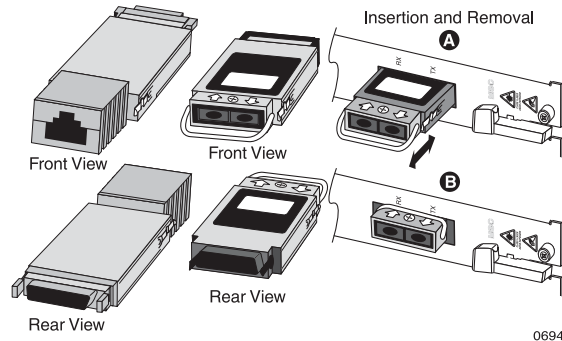
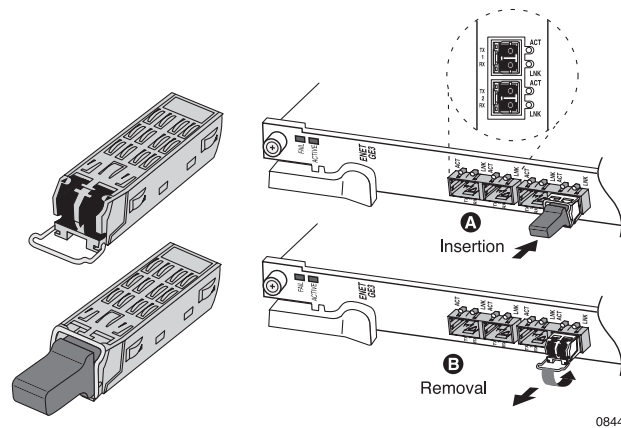
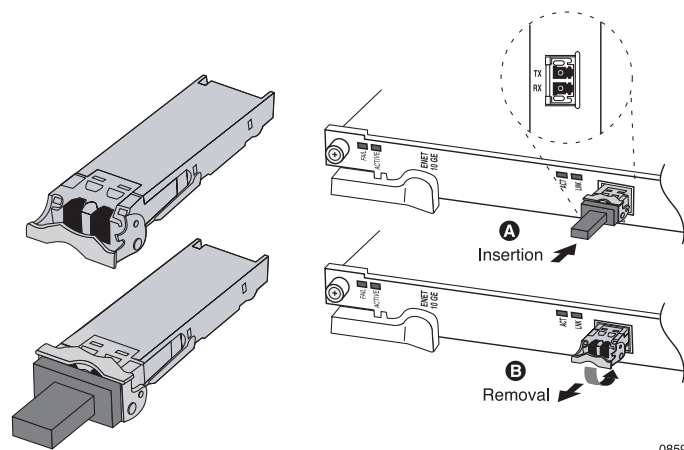

Figure 15 Installing a GBIC Transceiver
Figure 16 Installing an SFP Transceiver
Figure 17 Installing an XFP Transceiver
3. With the transceiver connectors aligned with the RX and TX labels on the front panel of the line card (as shown in Figure 15, Figure 16, or Figure 17), slide the transceiver into the opening for the port until the rear connector is seated and the locking mechanism snaps into place.